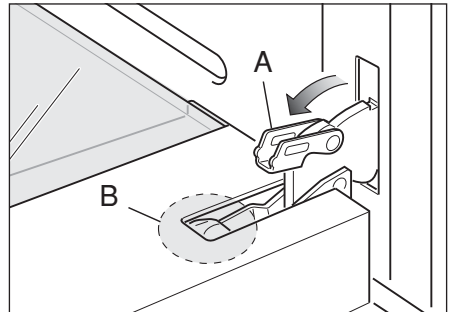
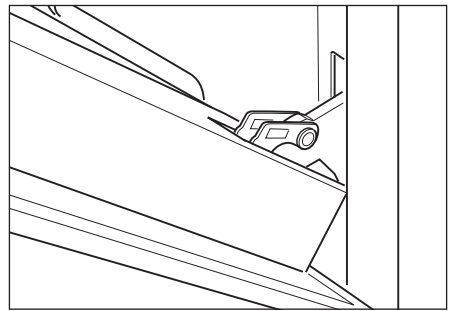

Fig.35b
Fig.35c
- Fully open the lever "A" on the left and right hinges (Fig 35b).
- Gently close the door (Fig. 35c) until the left and right hinges are hooked to part "B" of the door (Fig. 35b).